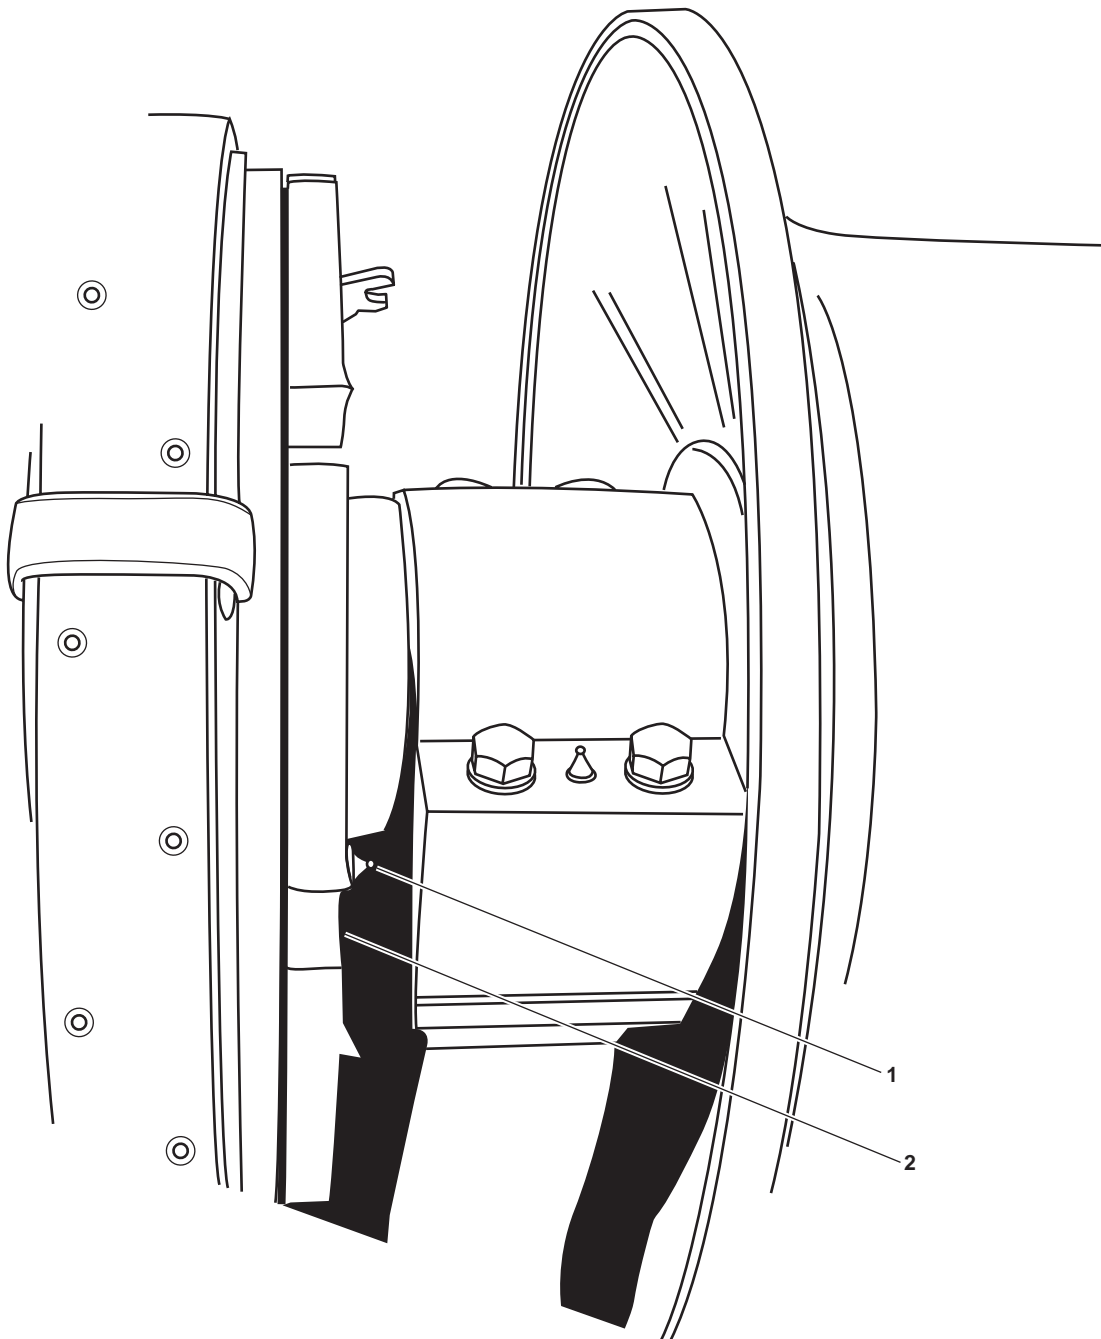

Figure 2. Lubrication Points
3. Using a lubricating gun, apply 4-5 shots of general purpose grease to the two grease fittings (figure 2, item 1) on each dog clutch (figure 2, item 2).
4. Operate the anchor windlass at low speed with the dog clutch (figure 2, item 2) engaged and disengaged (WP 0005 00) for 2-3 complete revolutions.